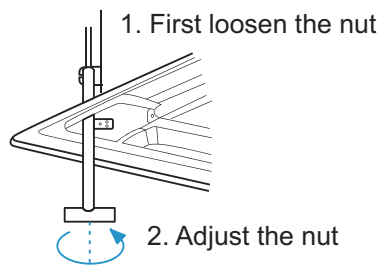

Figure 3.19
- If it does not affect the lifting and lowering of the indoor unit and the water discharge piping, you can use the openings at the four corners of the panel to adjust the height of the indoor unit. See Figure 3.19.